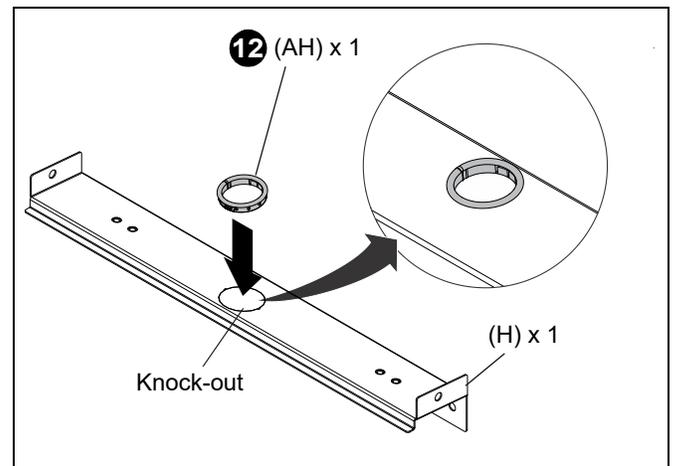

Figure 19
- CONFIGURATION 2 ONLY:** Remove the knock-out panel from one horizontal cover (H) and install a grommet (AH) into the opening. (See Figure 19)